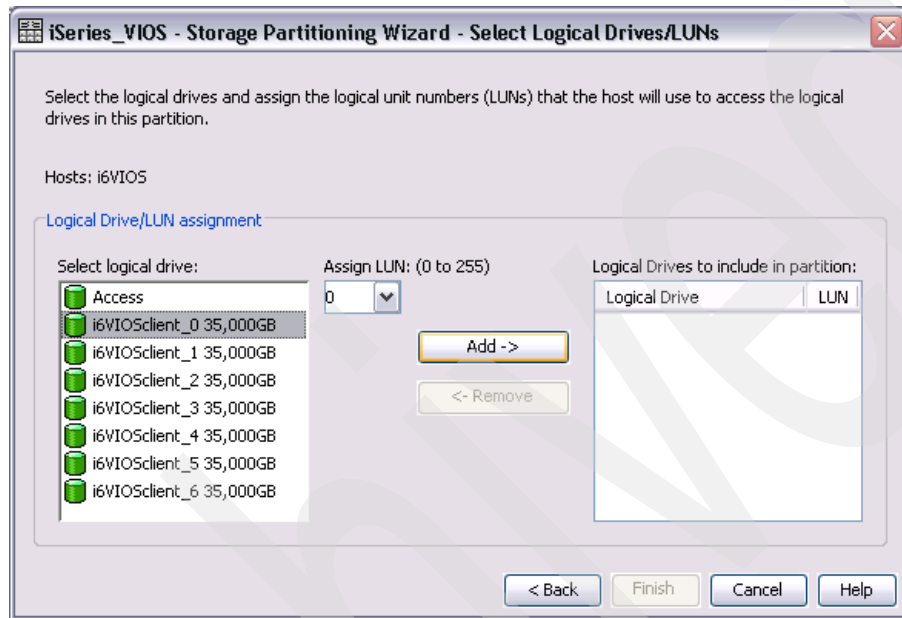

Figure 7-77 DS Storage Manager Storage Partitioning Wizard - Select Logical Drives/LUNs
4. We map the first logical drive i6VIOscient\_0 as LUN 0 to our i6VIO host by selecting this logical drive, accepting the default **LUN 0** selection, and clicking **Add**, as shown in Figure 7-77.